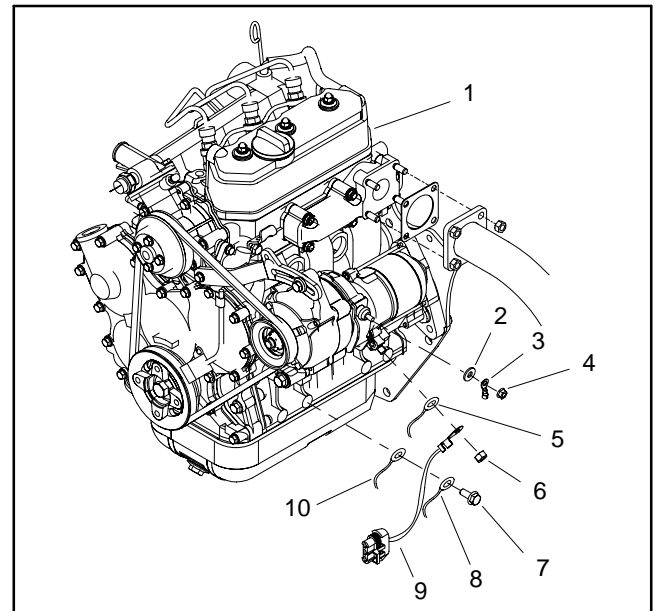

Figure 12
4. Remove exhaust tube (item 28) from vehicle (see Exhaust System Removal in this section).
5. Loosen hose clamp (item 31) that secures air intake hose (item 32) to engine. Remove intake hose from engine.
A. Battery cable and fusible link harness from starter solenoid stud (Fig. 12).
F. Negative battery cable and harness ground connector secured to engine mount (Fig. 12). Note location of ground connections and flange head screw for assembly purposes.